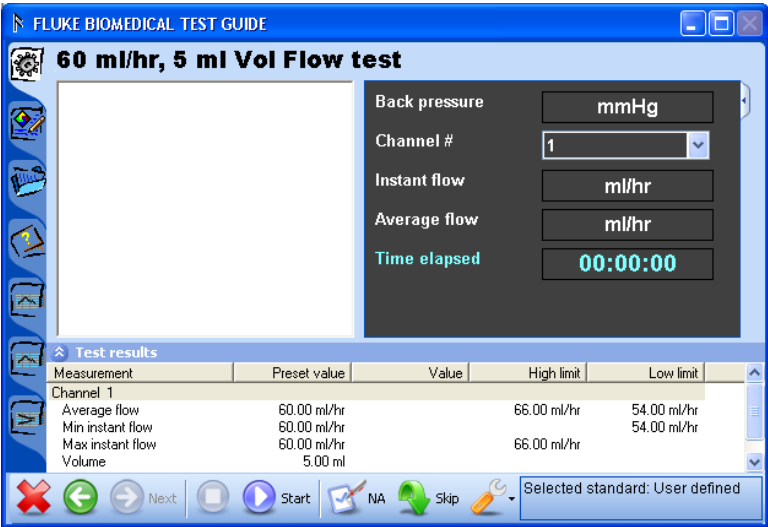

Figure 3-8. Pump Performance and Safety Test Window
10. Click ➡ to open the window in Figure 3-8.